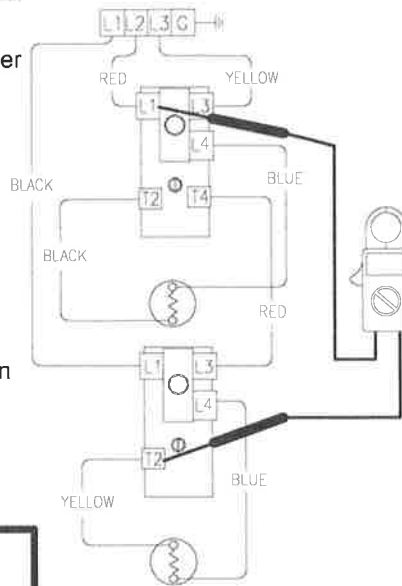

Figure 44
7. Check voltage across terminal L1 of upper thermostat & T2 of lower thermostat. (see Figure 44).
4. See Figure 44 above. Check across terminal L1 of upper thermostat & T2 of lower thermostat.